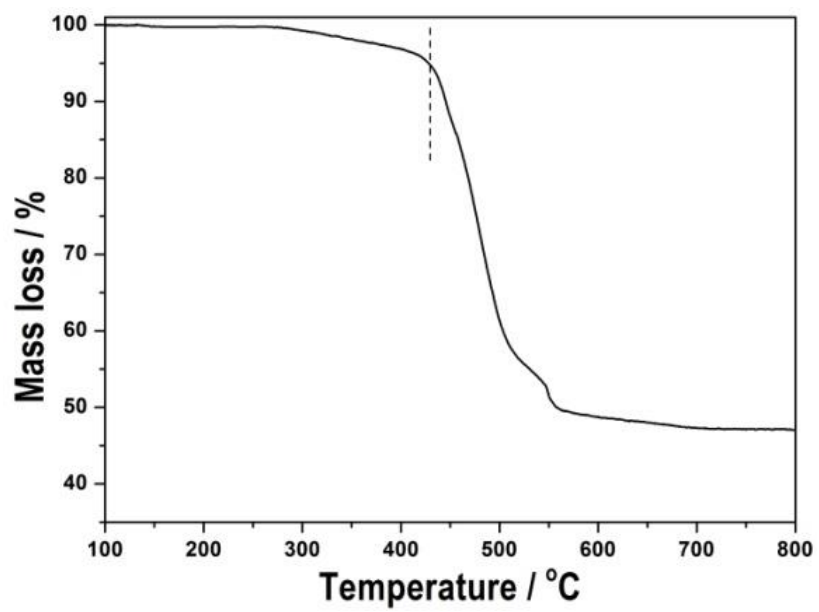

Fig. S4 TGA curve of the Eu-CPs.
4. **Fig. S4** TGA curve of the Eu-CPs.